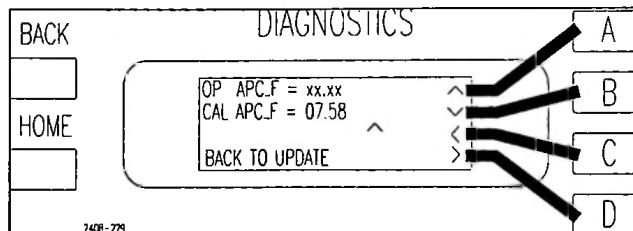

Figure 5-4 APC Calibration Factor Screen
- STEP 5** Press [HOME, MORE, CONFIGURATION C, A, D, C] to go to the APC Factor screen in Figure 5-4. Set the CAL_APC_FACTOR to 7.58. To access the edit controls press and hold the [D] key and press [C]. Press [BACK] to save the changes.